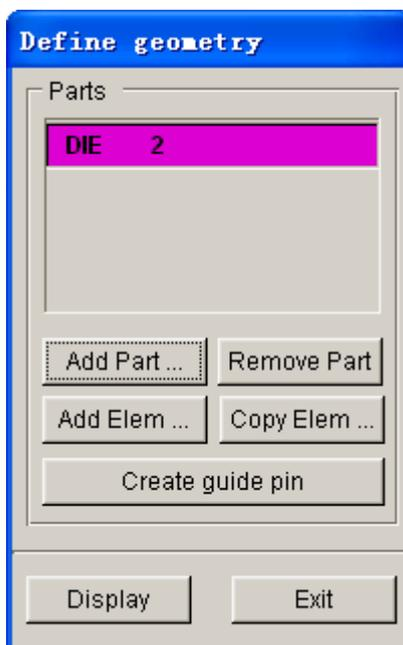

Figure 4.17 Die geometry list
7. Click **OK** to return tool geometry define dialogue box. **DIE** part has been added to the list of die. See Figure 4.17.